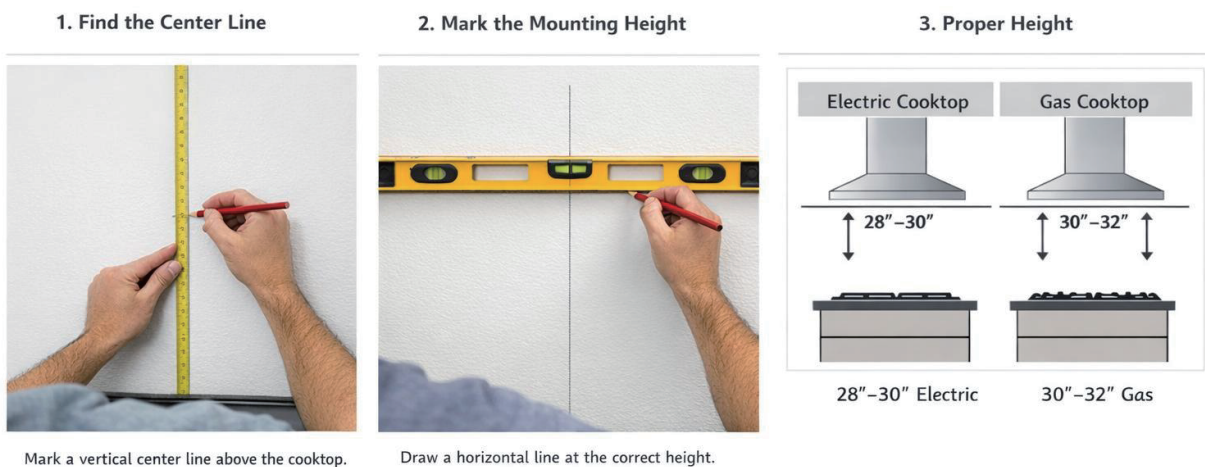

Figure 1
- These reference lines ensure the range hood is centered and installed at the correct height. Figure 1